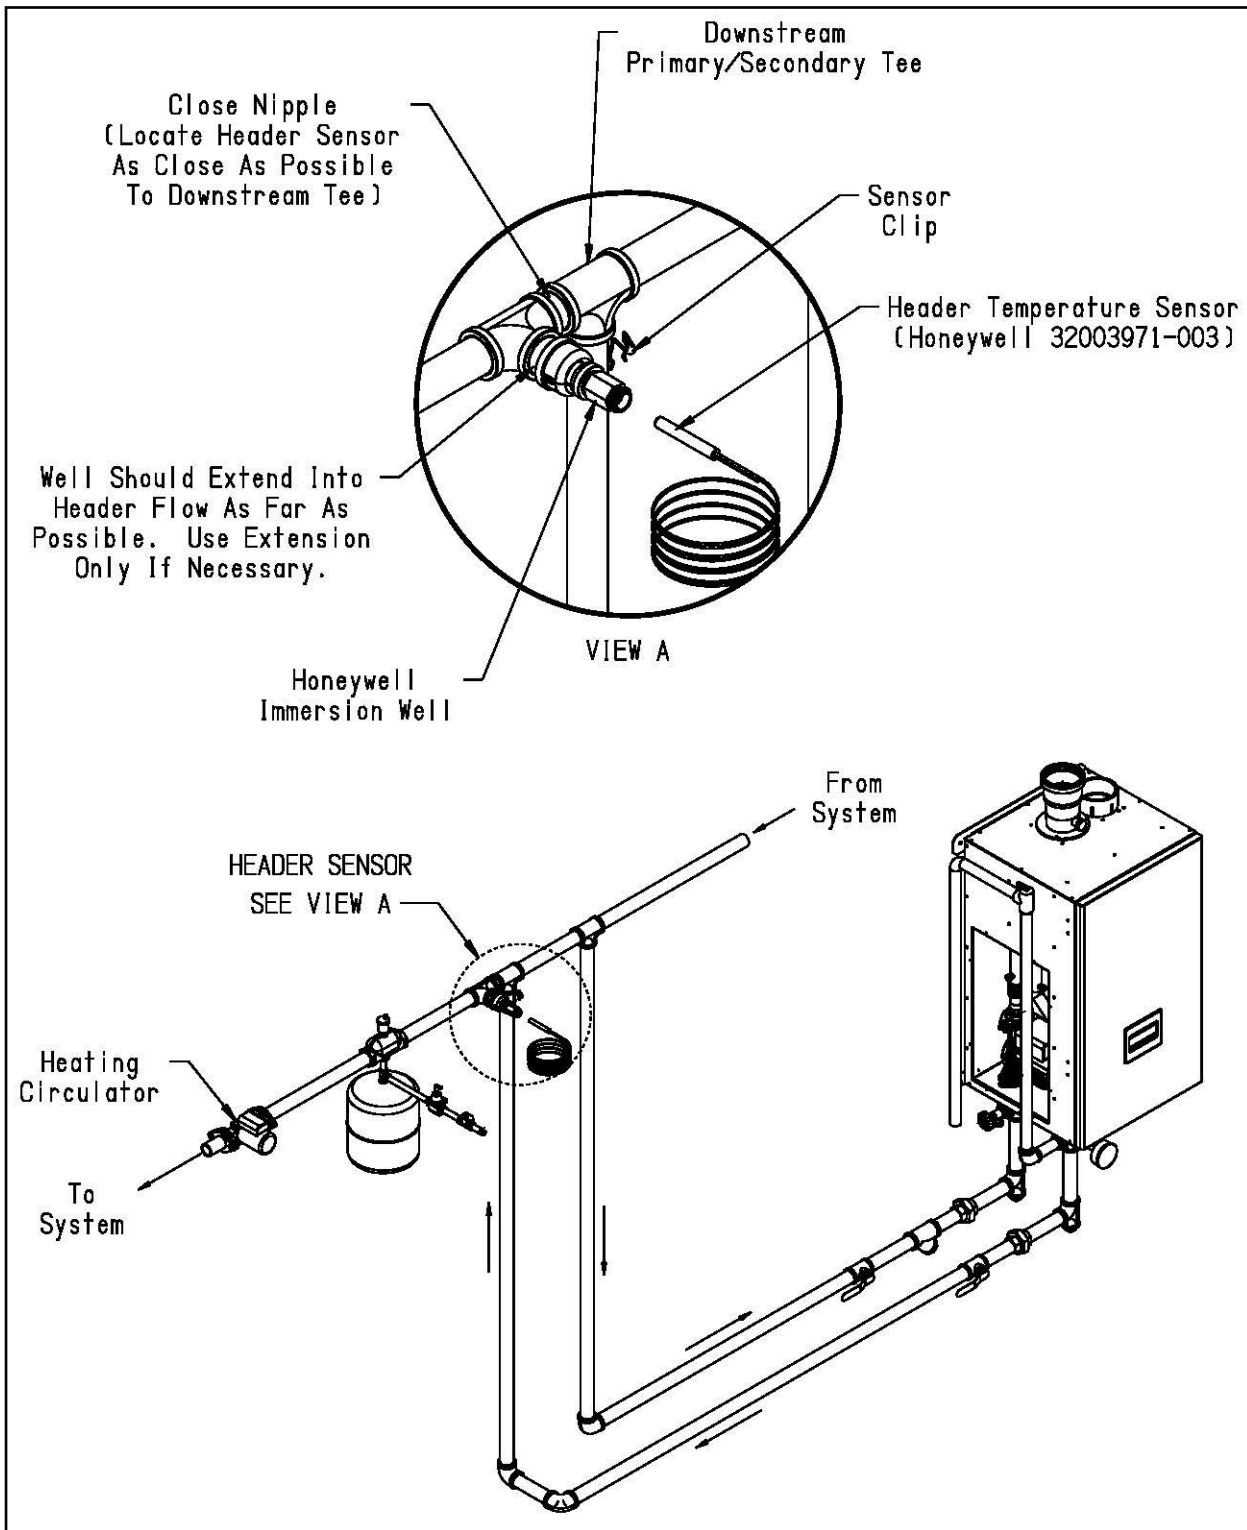

Figure 10.4: Proper Installation of Header Sensor
- Header Sensor - When this sensor is installed and enabled, the boiler will attempt to maintain the target water temperature in the header rather than in the supply. Where the system flow rate varies widely, the use of a header sensor allows the temperature of the water being sent to the radiation to be more accurately controlled. Use only the Honeywell 32003971-003 (103104-01) sensor listed above. Locate this sensor immediately downstream of the second primary-secondary Tee (Figure 10.4). Installation of this sensor in a well, as opposed to on the surface of the header, is highly recommended. The sensor wiring should be routed away from sources of electrical noise. Where it is impossible to avoid such noise sources, wire the sensor using a 2 conductor, UL Type CM, AWM Style 2092, 300Volt 60°C shielded cable. Connect one end of the shielding on this cable to ground. See Section XII for information on enabling the header sensor.